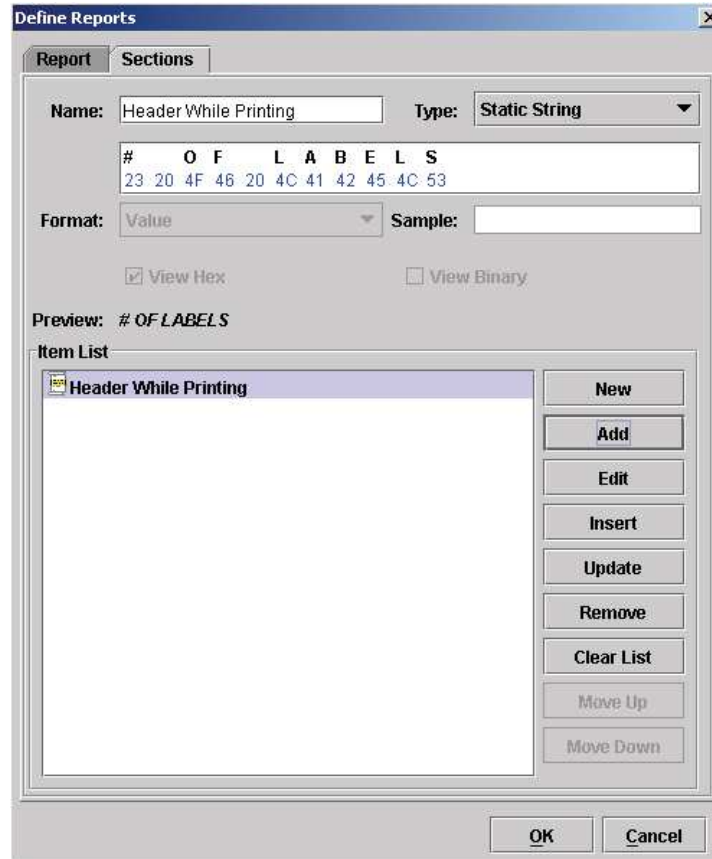

Figure 216 Defining a Sections Name
4. Click **Add**. The Header section is added to the Item List pane (Figure 216).